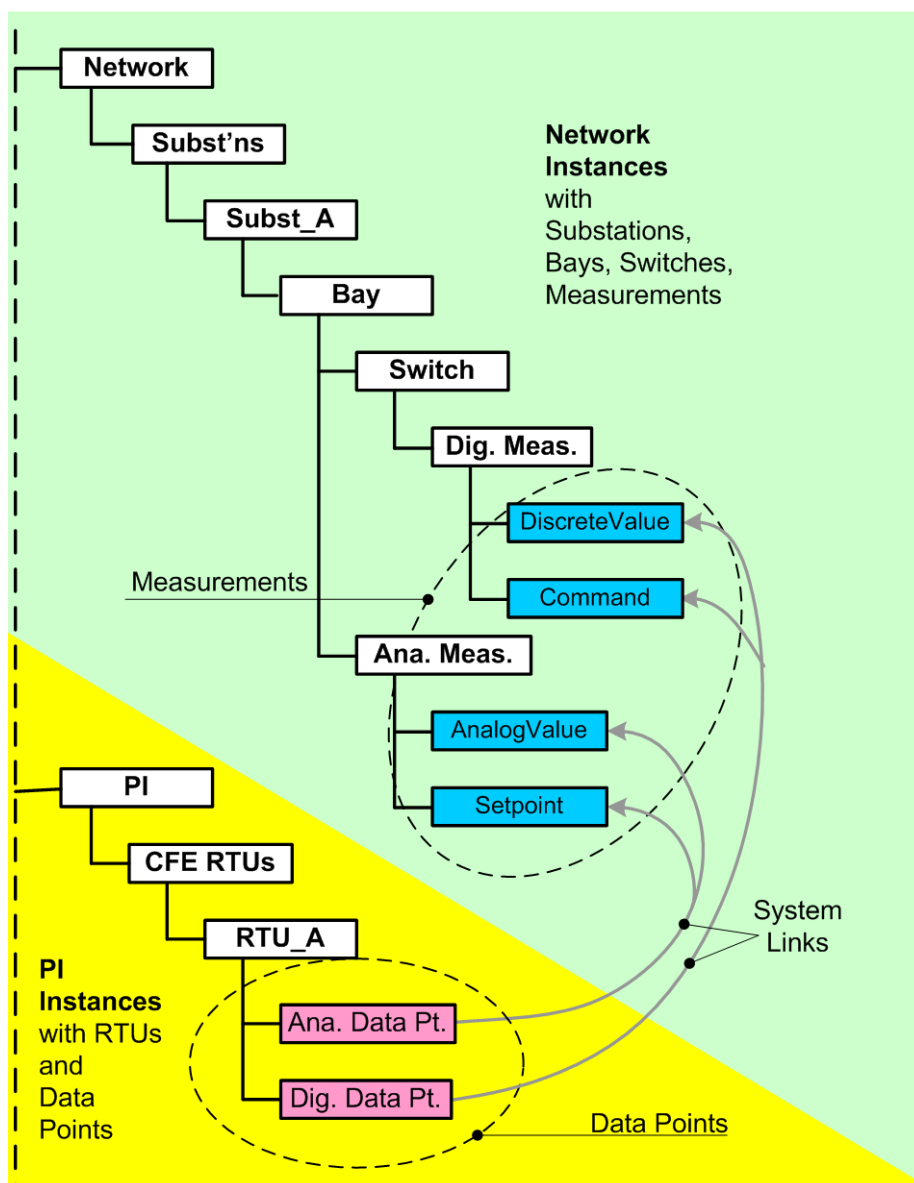

Figure 1-2.16: System Links Between RTU Data Points and Network Measurements
4. Establishing links from Network (or Accounting or Generation) instances to RTU data points, see Figure 1-2.16:
Each RTU data point is to be linked through the Association '(SendsTo) DiscreteValue' and/or '(ReceivesFrom) Command' to its corresponding Network (or Accounting or Generation) instance, see Figure 1-2.16